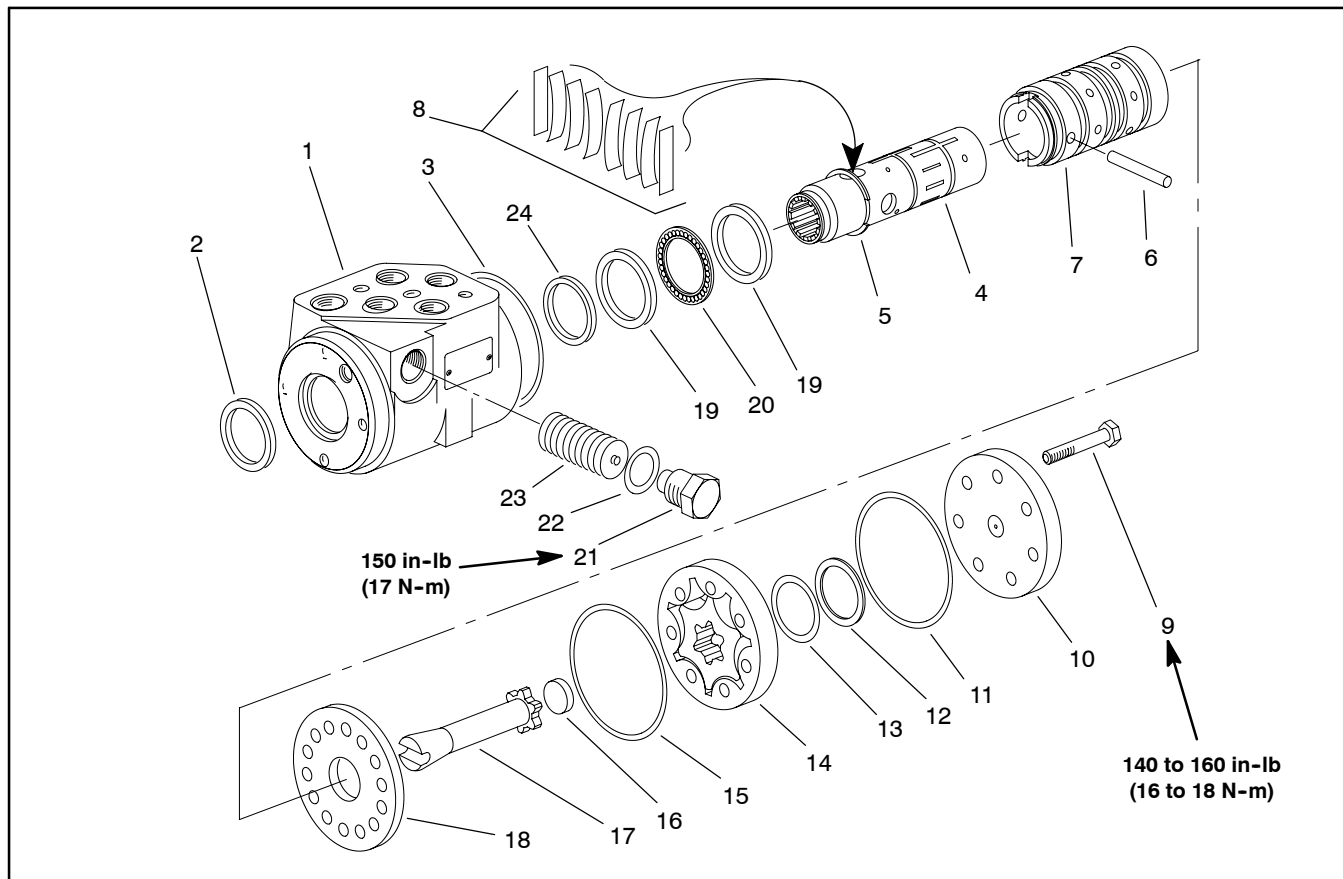

Figure 89
2. Remove end cap, geroter, spacer, geroter drive, wear plate, seal ring, and o-rings from housing (Fig. 89).
5. Remove the thrust bearing and bearing races (2).